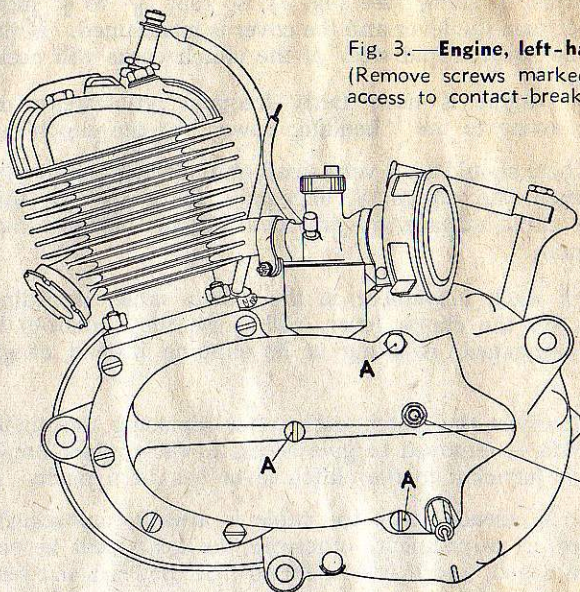

Fig. 3.—Engine, left-hand side.
**After the First 500 Miles.** Examine the contact breaker points. Access to these is obtained by removing the three screws marked "A" on Fig. 3, and the cover they secure. The points may require slight adjustment after their initial "bedding-in," and for this refer to page 8.
The clutch lever should be adjusted, by means of the adjusting screw (see Fig. 3), so that  $\frac{1}{16}$ " to  $\frac{1}{8}$ " movement between the lever and the cover is maintained. If the lever touches the cover, rapid wear of the clutch corks will occur.